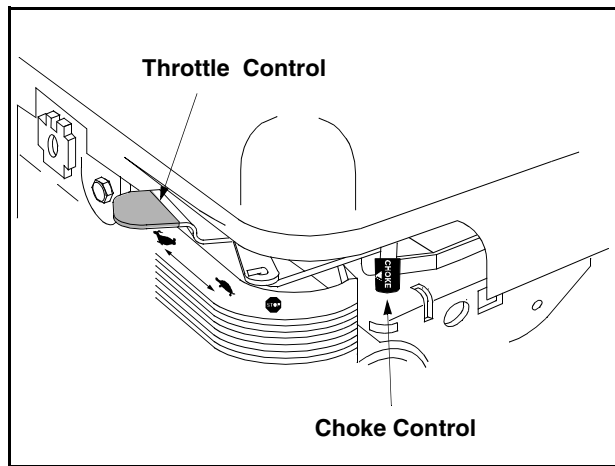

Figure 8
5. Move throttle control to START/RUN position. See Figure 8.
6. Move the choke control toward the throttle control to choke the engine's carburetor. (A warm engine may not require choking.) See Figure 8.